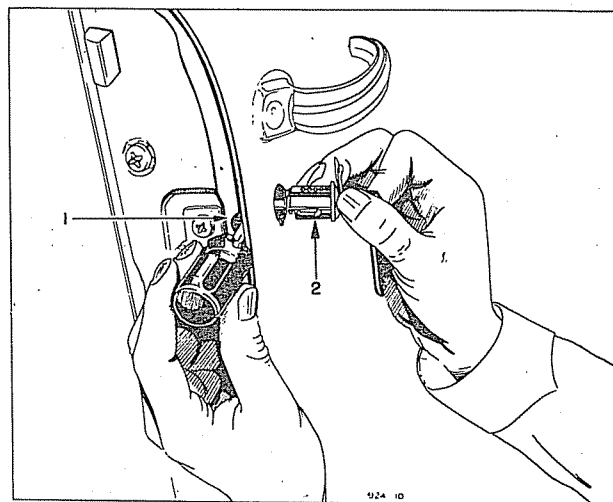

Fig. 2. — Removing Door Lock Cylinder
- (1) Loosen retaining screw (1) (Figure 2) in edge of door frame.
- (2) Pull out lock cylinder.